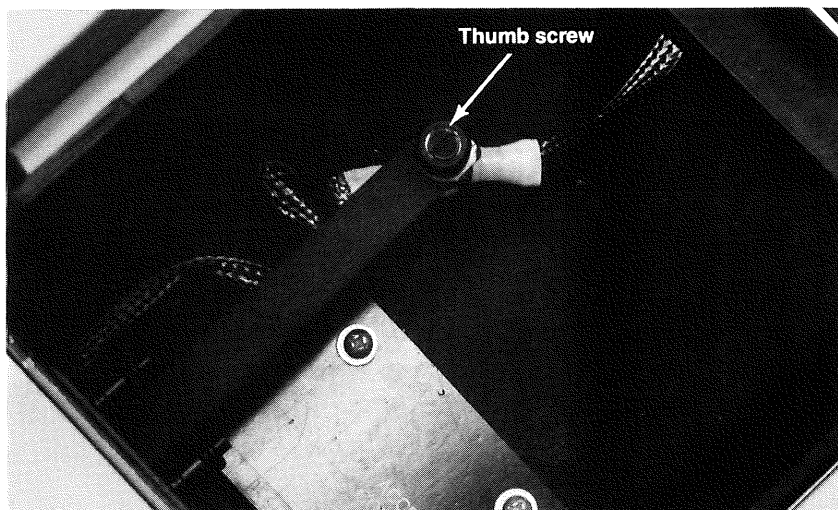

Figure 4.
4. Secure and ground the sipper panel to the sample compartment by tightening the thumb screw. See Figure 4.